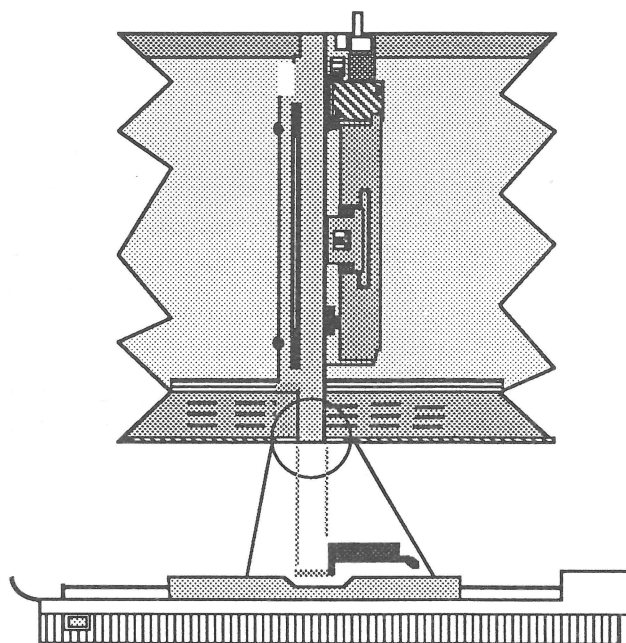

FIGURE 4
4. Position the optical block in the center of the scanner so that the left side of the optical block is aligned with the cutout on the left-side rail (Figure 4).